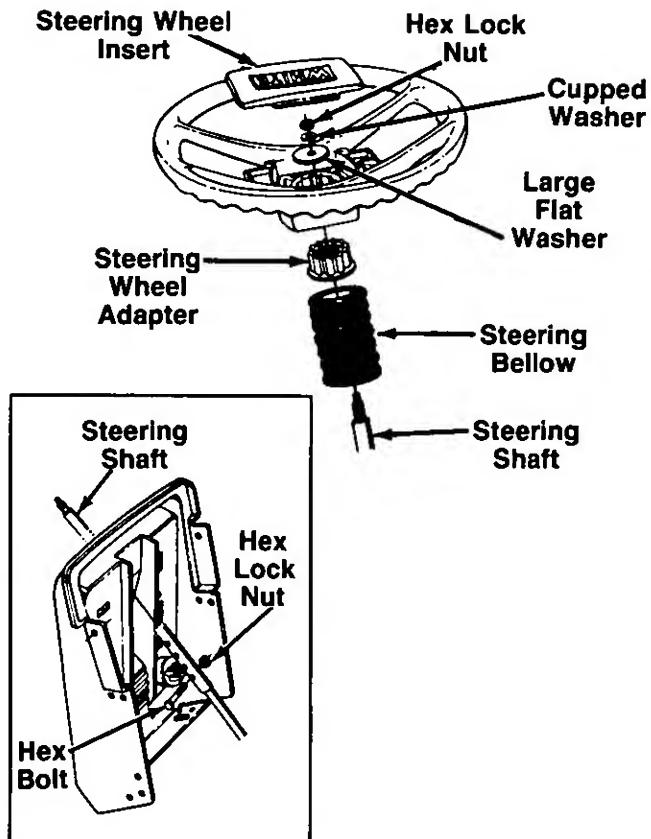

FIGURE 4.
1. There are four height positions for the steering wheel. For shipping purposes, the steering shaft is assembled in the lowest position. Lift the hood of the tractor. Remove the hex bolt and hex lock nut on the steering shaft. Raise the shaft to desired position and secure with hex bolt and hex lock nut. See figure 4, inset.
4. Place the steering bellow over the steering shaft. Place steering wheel adapter over end of steering shaft as shown in figure 4.
6. Place large flat washer over steering shaft, then cupped washer (cupped side down). Secure with hex lock nut removed in step 3. See figure 4.